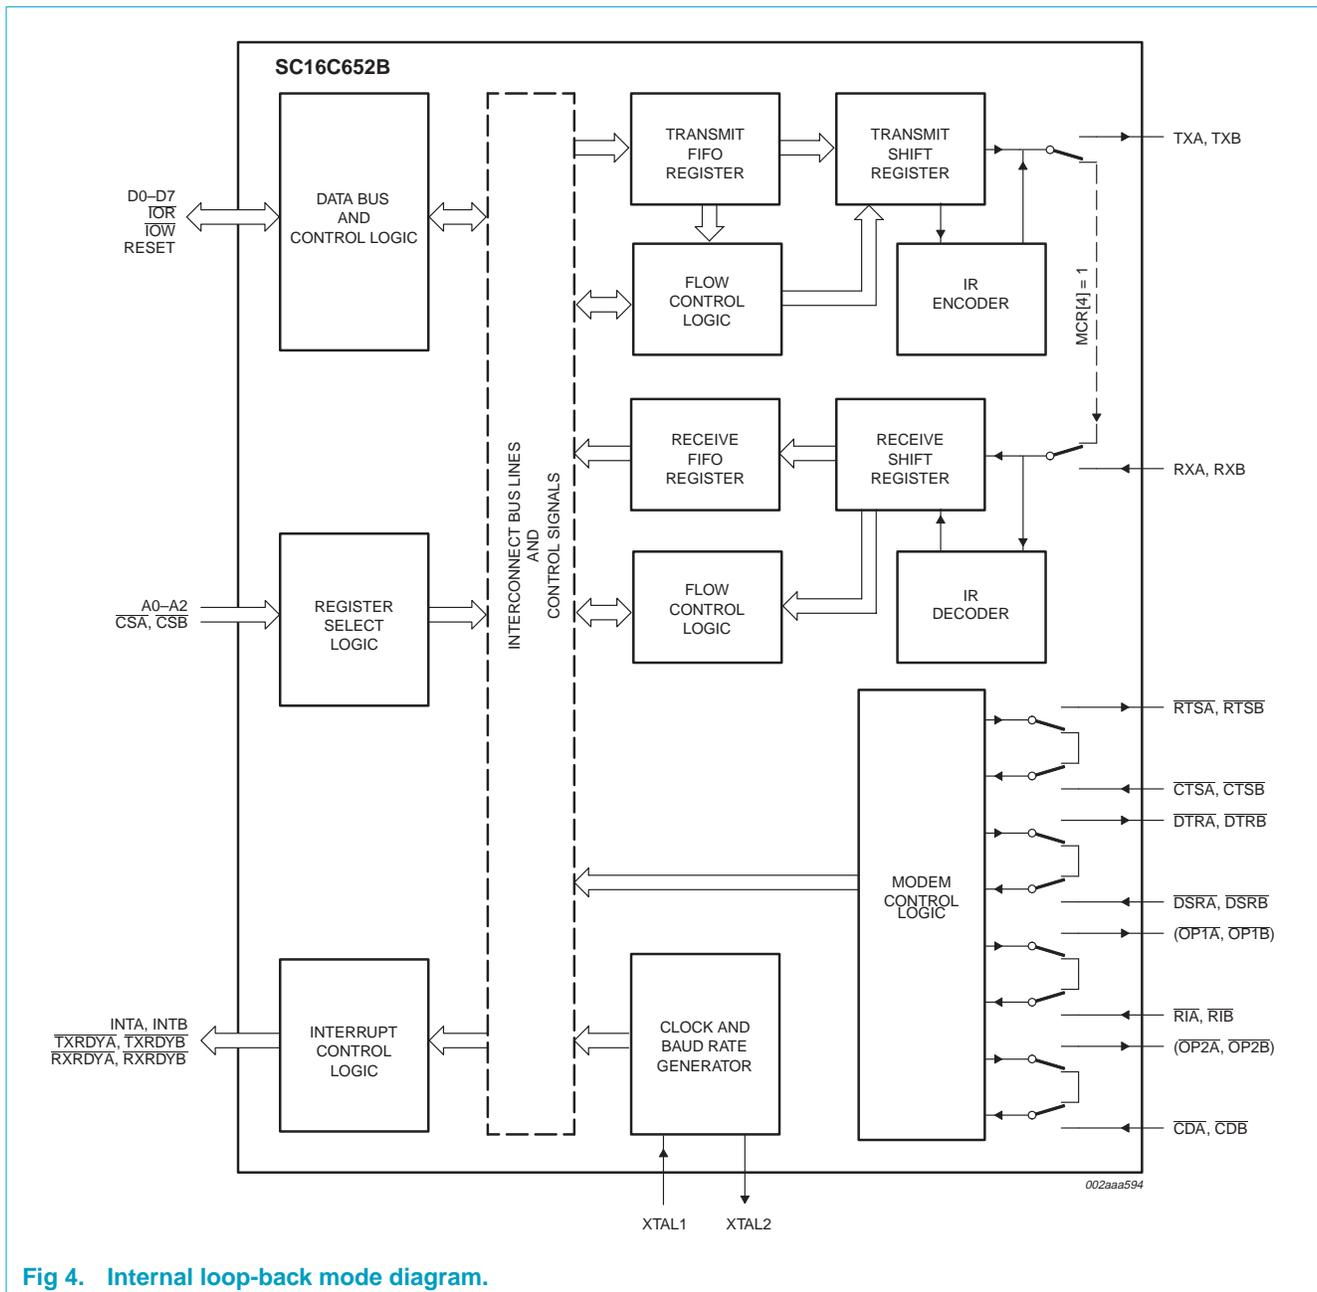

Fig 4. Internal loop-back mode diagram.
The internal loop-back capability allows on-board diagnostics. In the loop-back mode, the normal modem interface pins are disconnected and reconfigured for loop-back internally (see Figure 4). MCR[0-3] register bits are used for controlling loop-back diagnostic testing. In the loop-back mode, the transmitter output (TX) and the receiver input (RX) are disconnected from their associated interface pins, and instead are connected together internally. The $\overline{\text{CTS}}$, $\overline{\text{DSR}}$, $\overline{\text{CD}}$, and $\overline{\text{RI}}$ are disconnected from